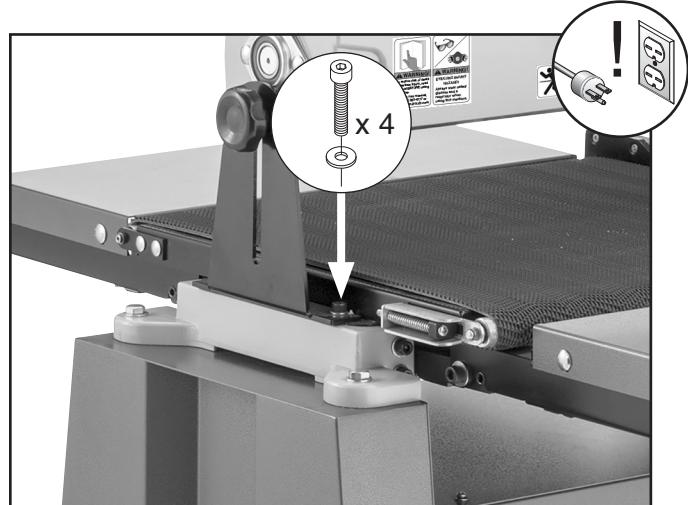

Figure 54. Location of table cap screws.
4. Remove (4) table cap screws and flat washers shown in **Figure 54**.